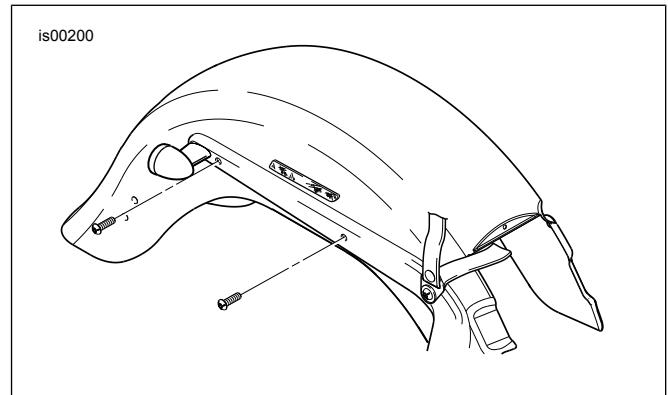

Figure 1. Remove and Discard Stock Screws
- See Figure 1. Remove and discard the two stock fender attaching screws as shown. Models with docking points; remove and save the docking points for use with the new saddlebag bar.